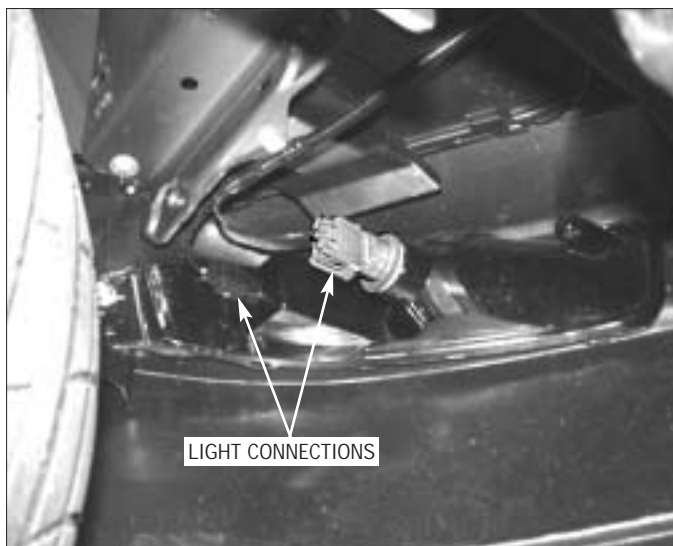

Fig. 3A-e
7. Remove the six nylon clips retaining the upper radiator core support cover. (See Fig. 3A-f.)